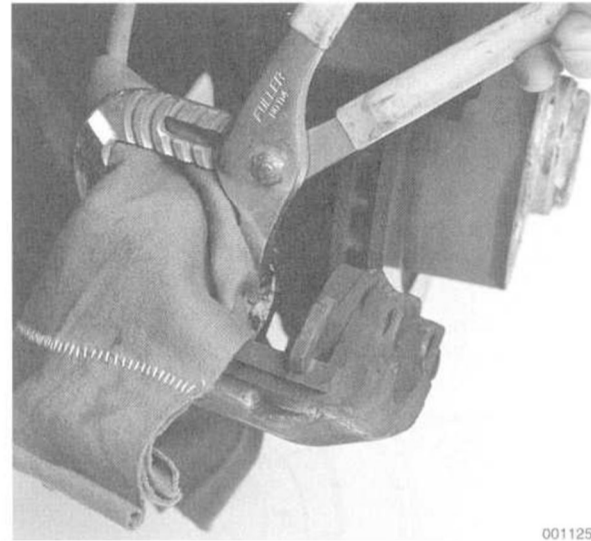

Fig. 6. Brake caliper piston being pressed into caliper. Use a rag to protect caliper piston and seals.
If there is a ridge on the rotor edge, the caliper piston will have to be pushed back into the caliper before the caliper can be removed, as shown in Fig. 6.
10. Slowly press the piston back into the caliper. See Fig. 6.